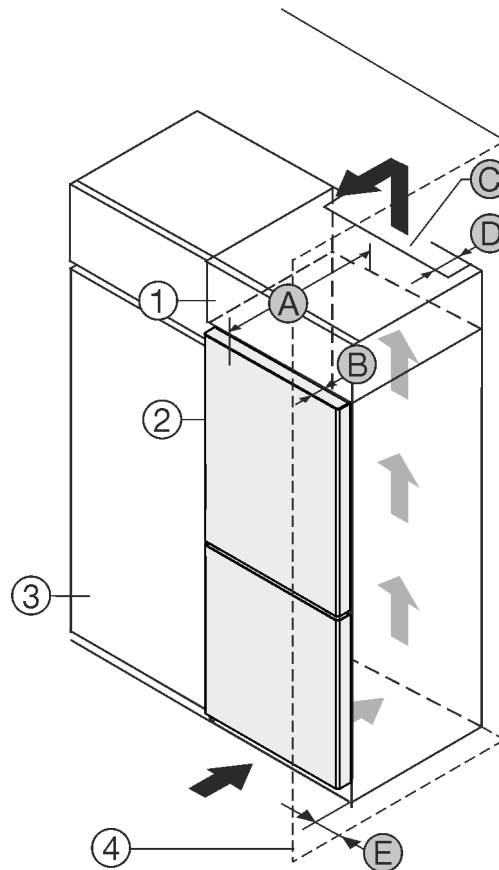

Fig. 1
- (1) Top cupboard*
- (2) Appliance*
- (3) Kitchen cabinet*
- (4) Wall*
- (A) Appliance depth*
- (B) Door depth*
- (C) Ventilation cross section*
- (D) Distance to the back of the appliance*
- (E) Distance to the side of the appliance*
You can place the appliance directly beside the kitchen cabinet Fig. 1 (3)*
There must be a ventilation shaft at the depth Fig. 1 (D) of the back of the top cupboard over the entire width of the top cupboard.*
The ventilation cross-section Fig. 1 (C) must be maintained under the ceiling.*
If the appliance is set up with the hinges next to a wall Fig. 1 (4), the distance between the appliance and the wall must be at least 13 mm.*
If the appliance is set up with the hinges next to a wall *Fig. 1 (4)*, the distance between the appliance and the wall must be at least 20 mm.*
In order to be able to fully open the door, the appliance must protrude by the depth of the door *Fig. 1 (B)* from the front of the kitchen cabinet. The appliance may protrude further depending on the depth of the kitchen cabinets *Fig. 1 (3)* and whether wall spacers are used.*